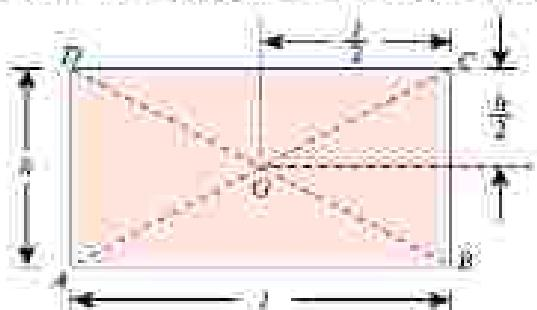

Fig. 6.1. Rectangle
2. The centroid of a rectangle (or a parallelogram) is at the point, where its diagonals meet each other. It is also a middle point of the length as well as the breadth of the rectangle as shown in Fig. 6.1